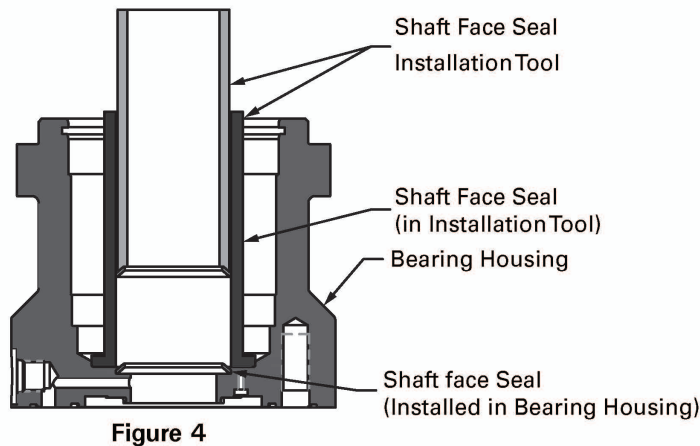

Figure 4
11. Install shaft face seal into bearing housing. Use an installation tool as shown, lubricate seal with Mobil EP -2 grease or petroleum jelly (e.g. Vaseline) and compress seal into place. (Figure 4)